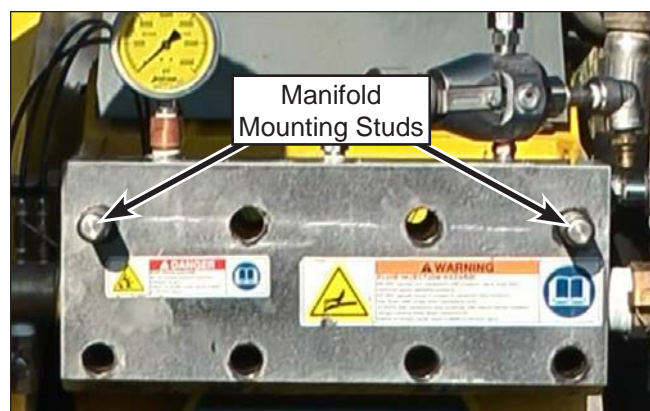

Figure 33: Lift the New Manifold onto the Mounting Studs.
20. Lift the new manifold onto the manifold mounting studs (Figure 33).